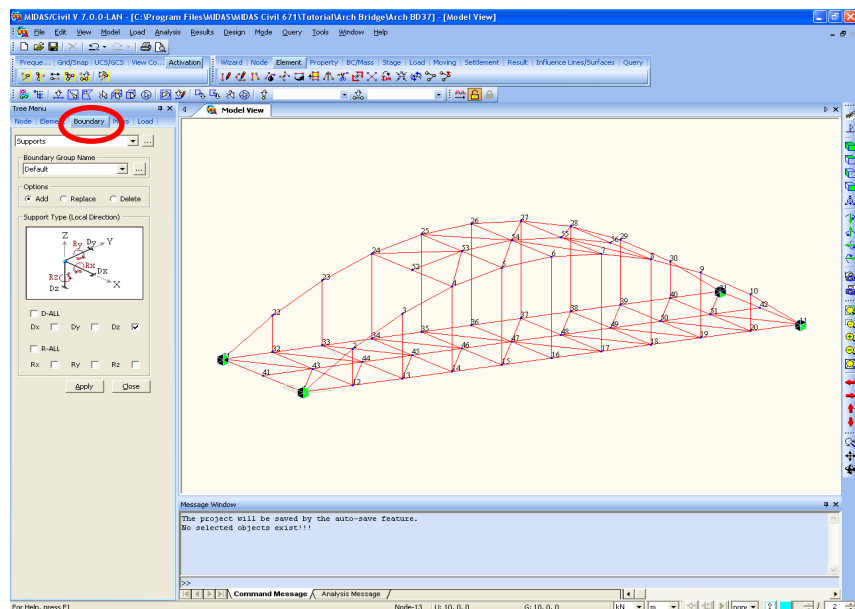

Figure 4.17 Structural Boundary Conditions
2. Select **Boundary** tab as shown in Figure 4.17, and select “**Supports**”.